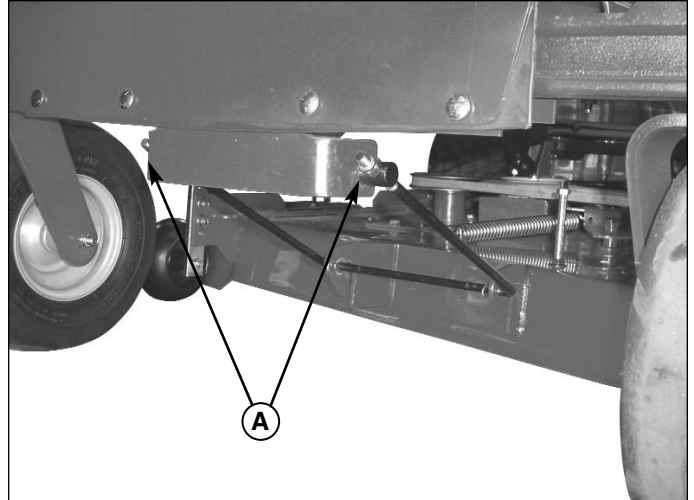

Figure 31. Mower Leveling - Front-to-Back
8. To adjust the front of the mower deck, use the adjusting nuts on the front hanger bar (A, Figure 31) until the desired measurement is achieved. Be sure to adjust both nuts the same amount.